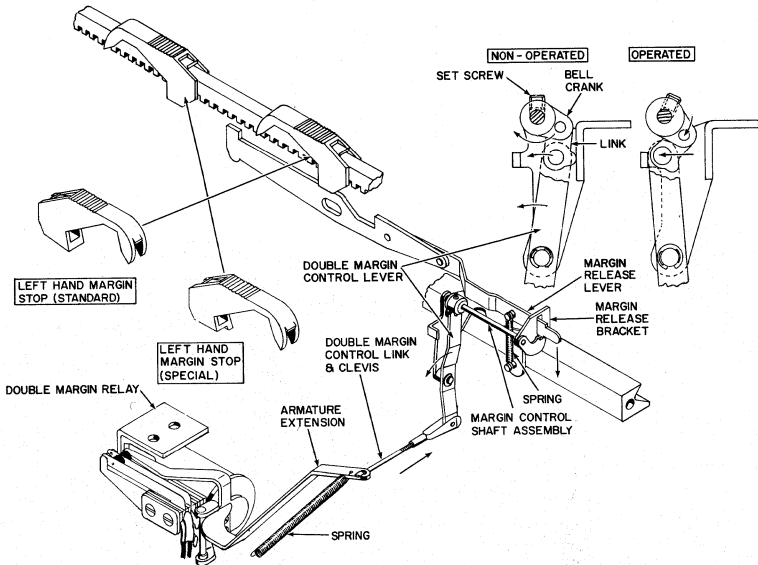

Figure 1
In the same manner as in an electric line finder, a reader delay switch is used to keep the reader stopped while the device is feeding the forms forward. However, the switch (the "Home Position" switch, (Figure 1) is mounted on the motor mounting frame. The switch is operated by a stud on the form feed solenoid.
On machines (Mono-Spacing only) equipped with the double margin control feature (Figure 1) the carriage returns to the standard margin stop. But, in addition, the carriage returns to a second margin stop when the double margin relay is energized. The second margin stop is always placed on the margin rack to the right of the standard margin stop. It is designed to miss the margin release lever when the relay is not energized. The left end of the margin release lever can be raised to allow the carriage to be moved past the left hand (standard) margin stop the same as in a normal machine.
The linkage which accomplishes the positioning of the margin release lever moves according to the arrows in Figure 1.
2. With the relay not energized, adjust the double margin control link so that the double margin control lever link rests against the margin release bracket (Figure 1). Operate the relay manually and be sure that there are no binds or lost motion. Have the set screw on the bell crank tightened in a position where the bell crank doesn't interfere with the adjustment.